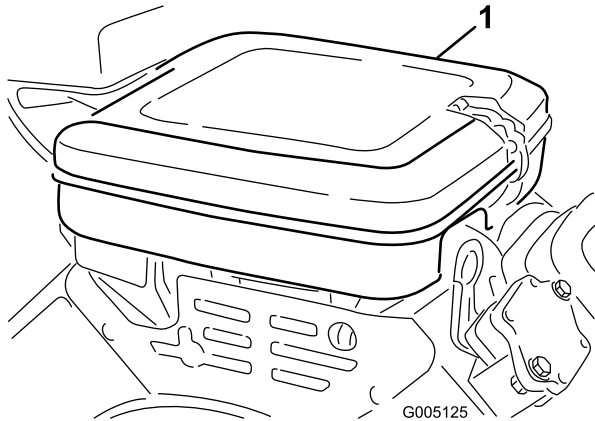

Figure 42
1. Release the locking clips and remove the air cleaner cover (Figure 42). Clean the cover thoroughly.